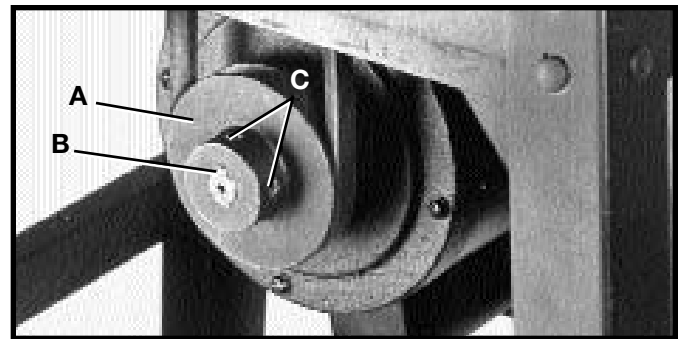
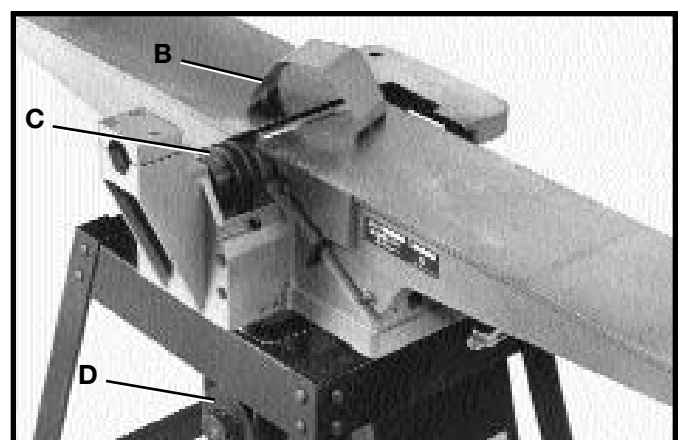

Fig. 16
Fig. 18
1. Assemble motor pulley (A) Fig. 16, to motor shaft with the hub of the pulley in the outer position as shown. Make sure key (B) is inserted in the keyway of the motor pulley and shaft.
2. Place the belt in groove of cutterhead pulley (C) Fig. 18, and motor pulley (D).
3. Make certain the motor pulley (D) Fig. 18, is aligned with the cutterhead pulley (C). If necessary, the motor pulley (D) can be moved in or out on the motor shaft to provide proper alignment. Then tighten two set screws (C) Fig. 16.
6. Replace cutterhead pulley guard (B) Fig. 18, which was removed in **STEP 1**.